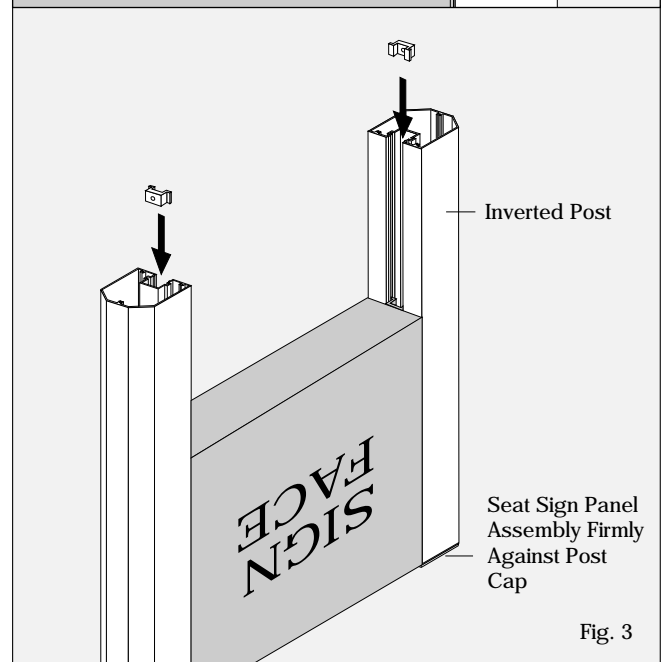

Fig. 3
3. Once all components are inserted and fully seated against post caps, re-insert the Stop Block and slide firmly against the bottom of the Sign Panel. (Fig. 3) Tighten the Stop Block screws securely using the 3/16" hex wrench.*